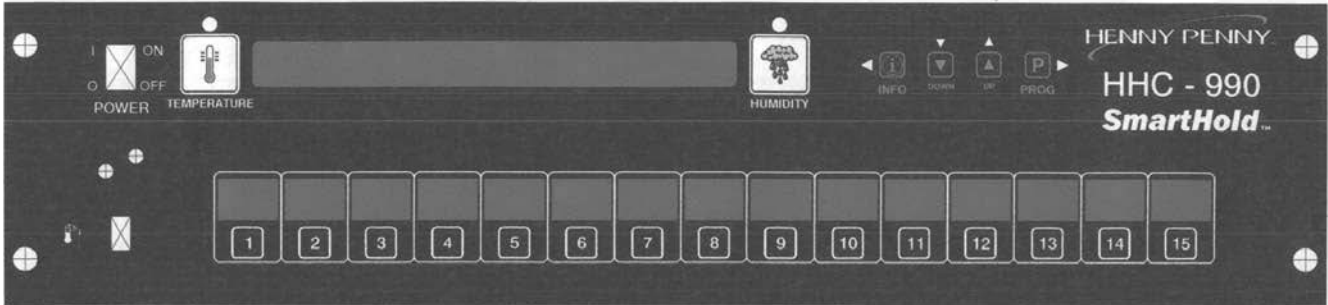

Figure 3-5
- Using the timer buttons, (Figure 3-5), enter code of 11221122.